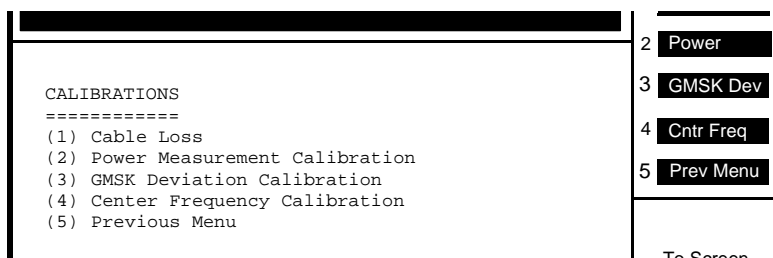

Figure 56
- a. From the MAIN MENU, select (4) **Calibrations**. The CALIBRATIONS menu appears, see figure 56.